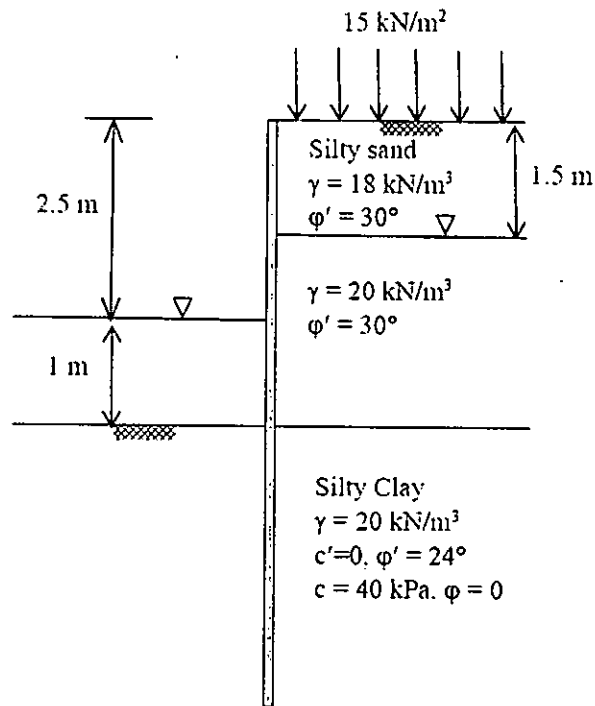

Fig. 5
5. Determine the length of a cantilever sheet pile required to retain 3.5 m of sandy backfill material overlying silty clay deposit (Fig.5). A surcharge load of 15 kPa acts on the backfill. Consider the scenario of sudden drop in water level in front of the wall by 1 m as shown in figure. Consider short term analysis. (20)